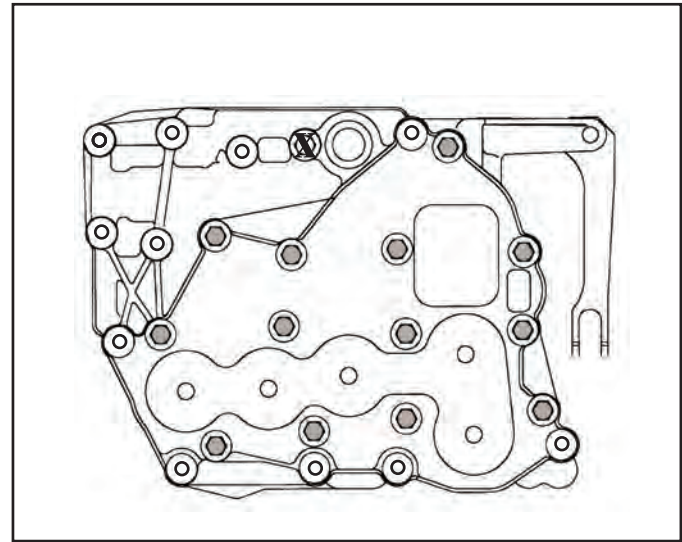

Figure 172
1. Remove the 13 bolts from the valve body highlighted in Figure 172. **Do not** remove the bolt marked X.
5. At this time, remove the remaining bolt marked with a X in Figure 172.